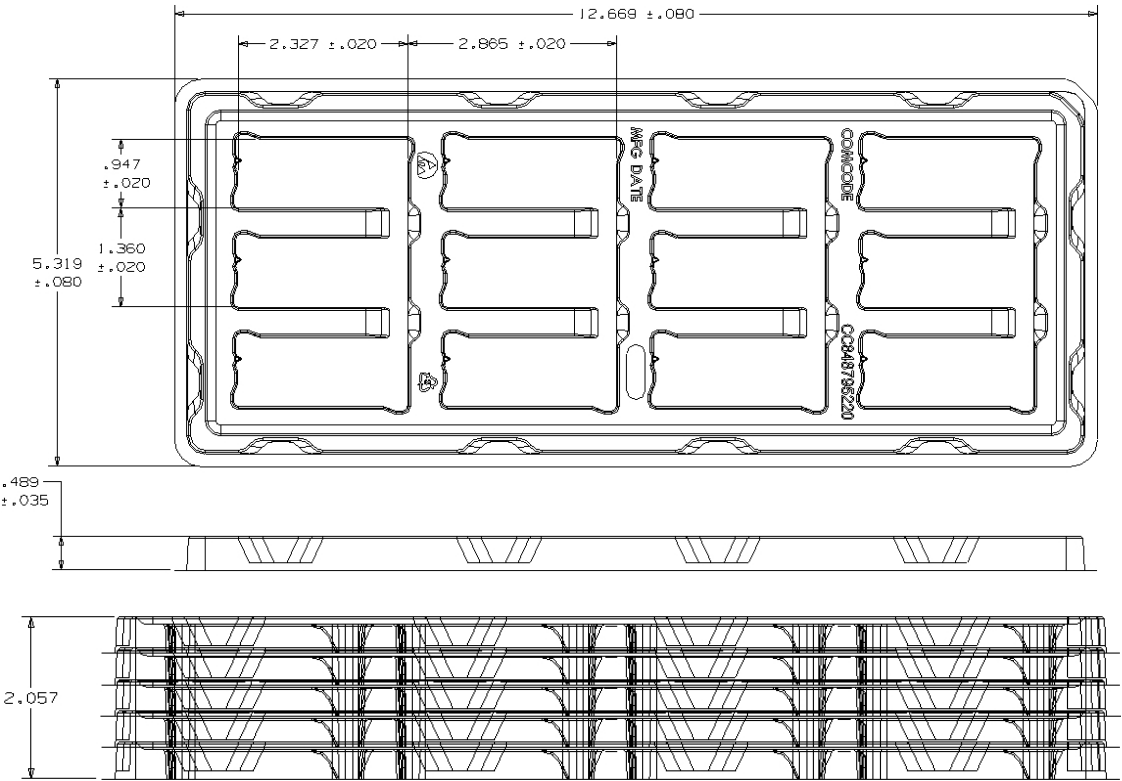

Figure 68. Surface Mount Packaging Tray.
The surface mount versions of the EQW surface mount modules (suffix –S) are supplied as standard in the plastic tray shown in Figure 68. The tray has external dimensions of 135.1mm (W) x 321.8mm (L) x 12.42mm (H) or 5.319in (W) x 12.669in (L) x 0.489in (H).